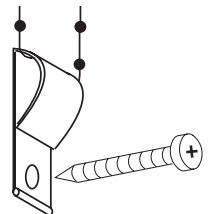

Figure 15
- ⑬ For Bead Chain Clutch-Operated units, place cord tension device on bead chain (see Fig. 15), and install cord tension device to wall, jamb or sill so that the bead chain is held taut enough that children cannot pull it away from the wall or fit their head into the loop. **See safety note on page 1.**